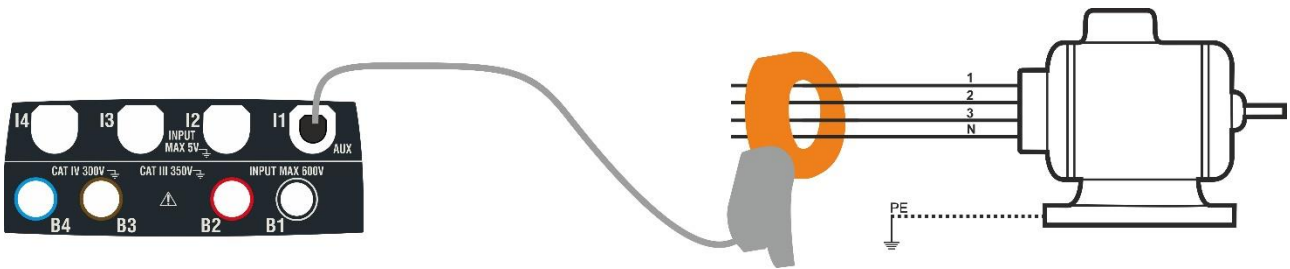

Fig. 6: Indirect measurement of leakage current in three-phase systems
- For indirect measurements of leakage current, connect the external clamp according to Fig. 6. For direct measurements of leakage current, connect the clamp according to Fig. 7 and disconnect possible additional earth connections that could influence the test results.